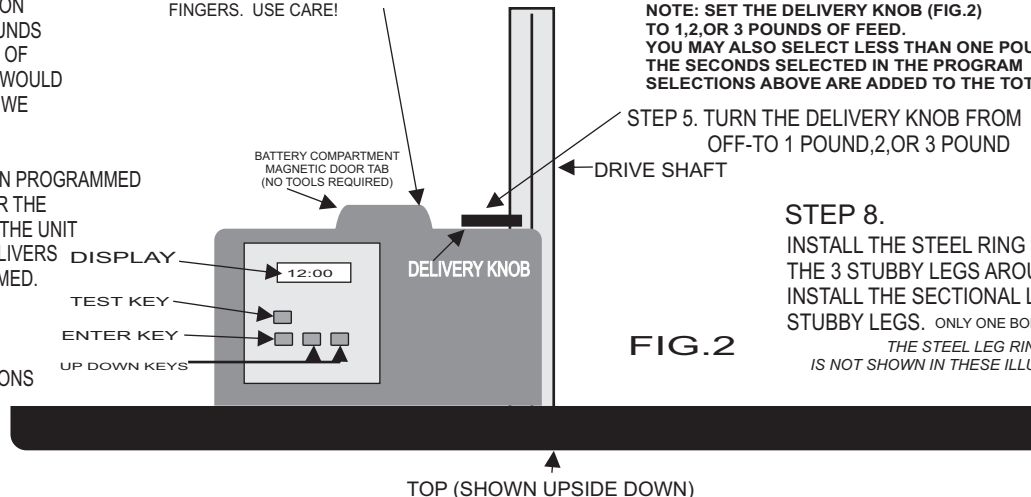

FIG.2
STEP 2. LIFT UP AND REMOVE THE TOP ASSEMBLY AND PLACE ON A LEVEL SURFACE IN AN UP SIDE DOWN POSITION AS IN FIG.2
STEP 4. SEE FIG. 2
- NOTE: SET THE DELIVERY KNOB (FIG.2) TO 1,2,OR 3 POUNDS OF FEED. YOU MAY ALSO SELECT LESS THAN ONE POUND. THE SECONDS SELECTED IN THE PROGRAM SELECTIONS ABOVE ARE ADDED TO THE TOTAL DELIVERY.**